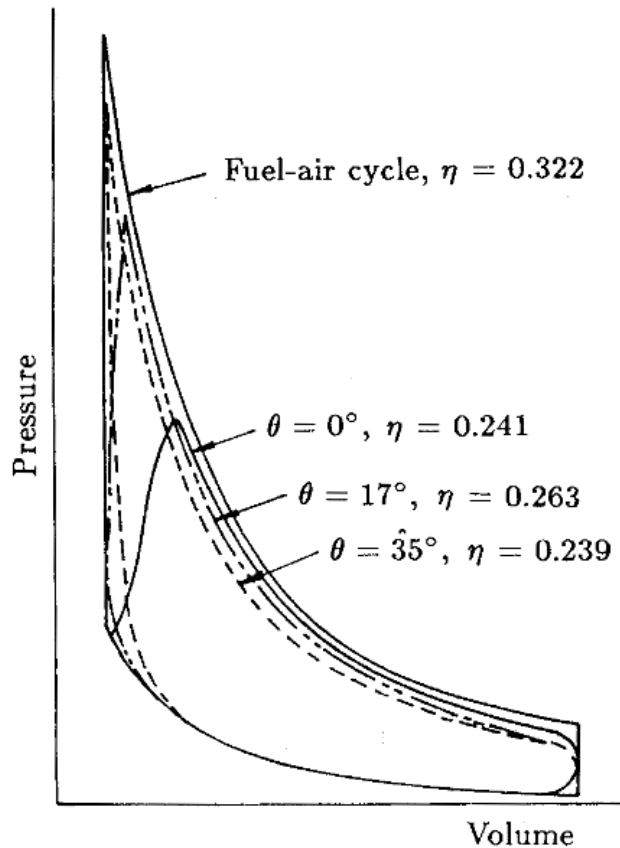

Fig. 5.5 $p - V$ Diagram showing Power Loss due to Ignition Advance
- Figure 5.5 shows the effect of spark advance on the power output by means of the $p - V$ diagram.